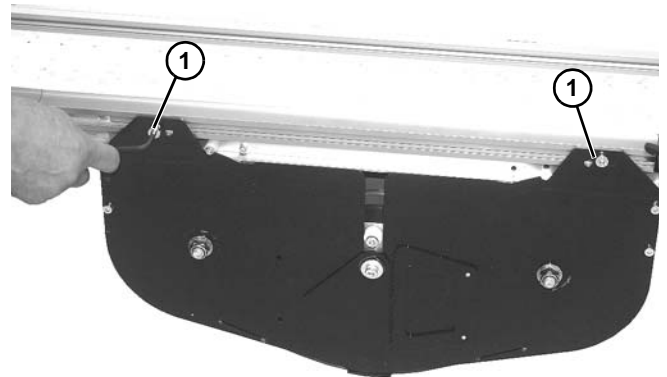

Figure 93
1. Remove two socket head screws (Figure 93, item 1) on each side securing assembly to frame.